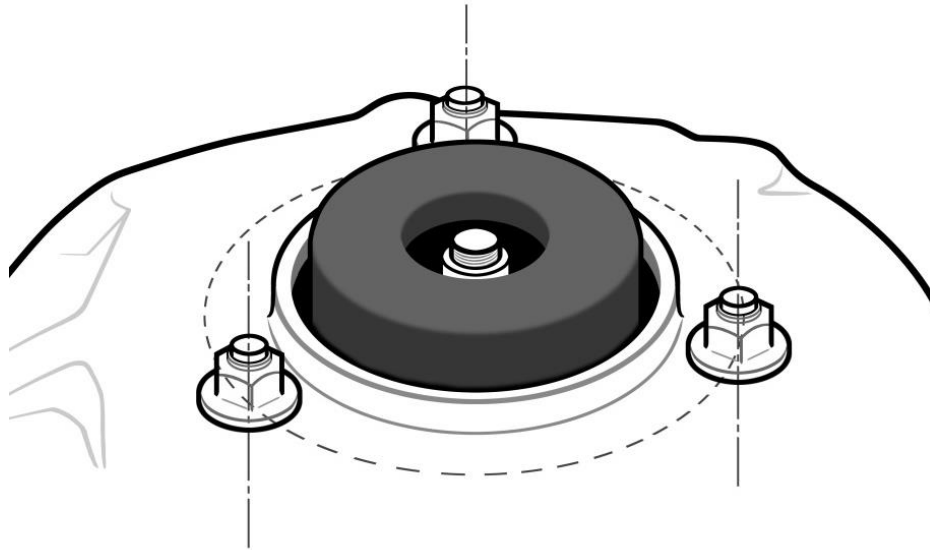

Figure 6
- E. MacPherson strut upper mount pivot must remain within the centerline dimension of the OEM unaltered factory bolt pattern on the chassis. Refer to Figures 6 and 7.